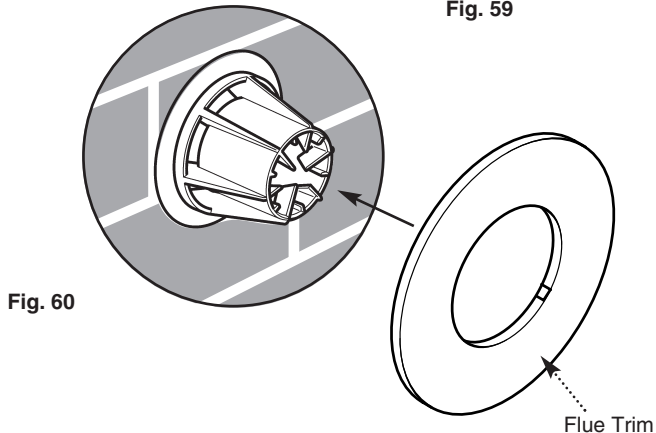

Fig. 60
10. The flue trim provided may be fitted if required, to neaten the make-up around the terminal (Fig. 60).